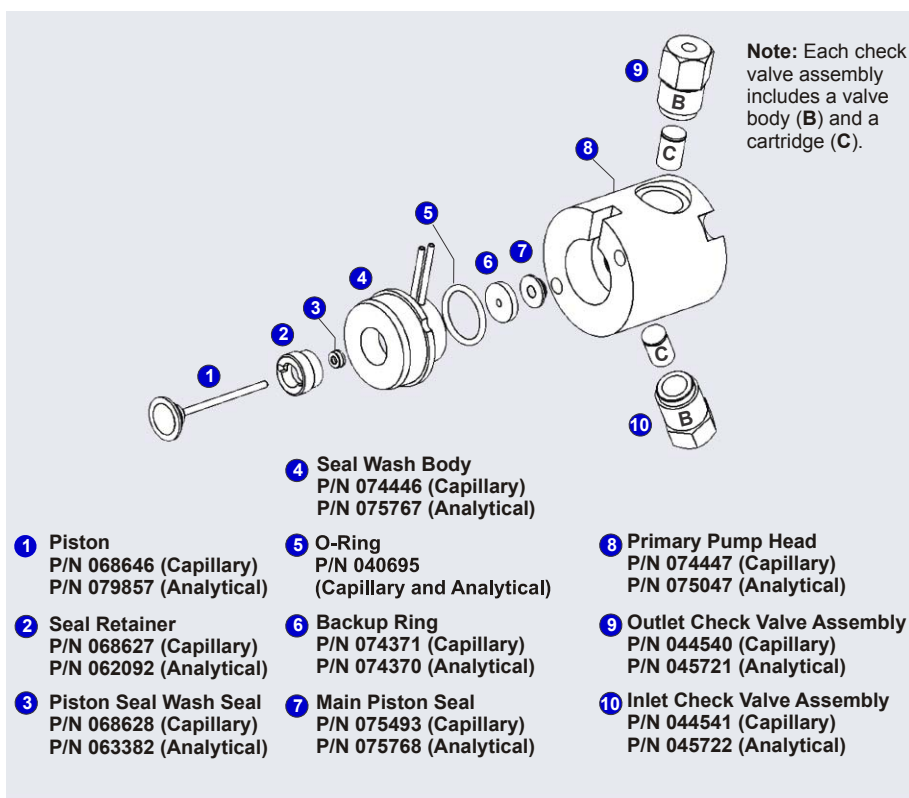
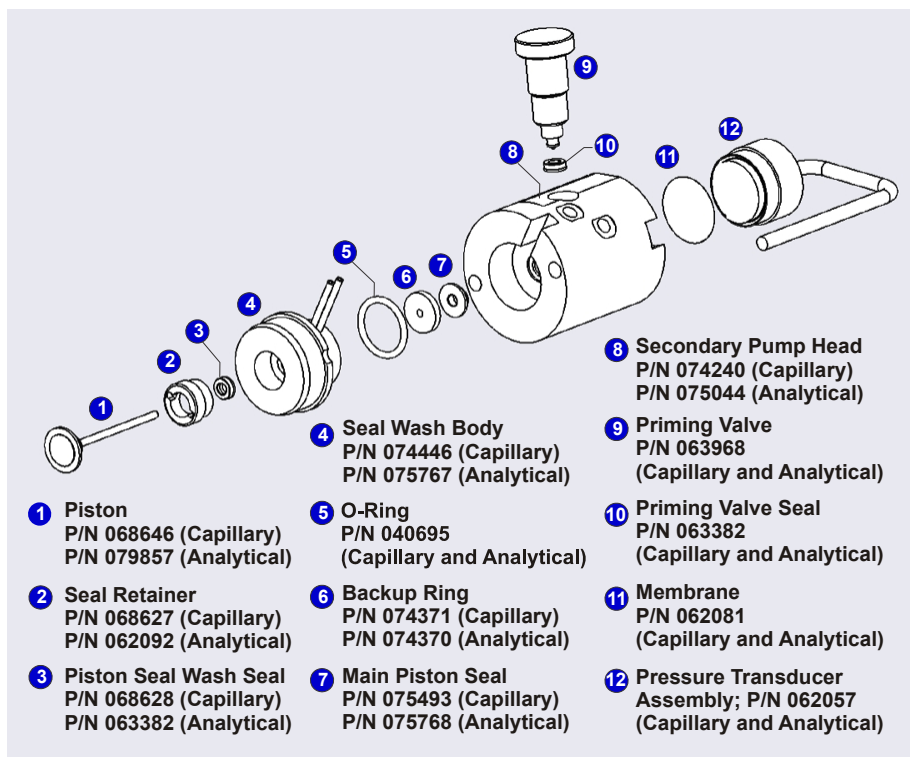

Figure 9-6. DP/SP Pump: Primary Pump Head Assembly
Figure 9-7. DP/SP: Secondary Pump Head Assembly
NOTE Capillary IC pumps and analytical IC pumps use different main piston seals and piston seal wash seals. Before continuing, verify that you have the correct seal for your pump type. Part numbers are shown in Figure 9-6 and Figure 9-7.
8. The primary and secondary pump heads have different components. When disassembling a pump head, see Figure 9-6 for a primary pump head or Figure 9-7 for a secondary pump head.
When disassembling and reassembling the pump head, see Figure 9-6 (primary pump head) or Figure 9-7 (secondary pump head).